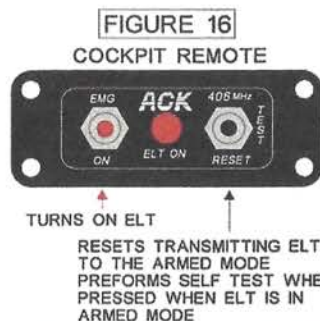

FIGURE 16
- 2.) The ELT also may be activated by pressing the "On" button on the cockpit remote control (RCPI). (Page 11 Fig. 16)
- 1.) Pressing the "Reset" button on the remote control (RCPI). (Page 11 Fig. 16)
When the ELT is activated, and transmitting the 406 Mhz distress signal. The cockpit remote will flash, and the audio alert indicator will emit a series of 9 beeps, approximately every 50 seconds to alert the crew that the ELT is operating. If there is no emergency, reset the ELT using the "Reset" button on the remote, (Page 11 Fig. 16) and immediately notify the appropriate search and rescue operations office, or ATC of the false activation.
- 1.) When the ELT is in the "Armed" position, pressing the "Reset/Test" switch on the cockpit remote control (RCPI) initiates a self test. (Page 11 Fig. 16)